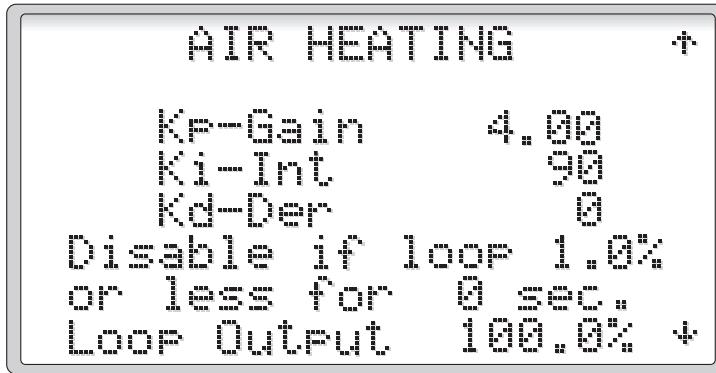

Figure 47
2.3.4.2.3 Air Heating (Figure 47)